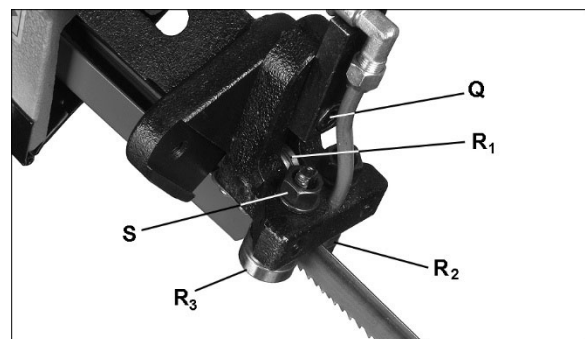

Figure 8-9: blade guide setting
2. Loosen bolt (Q, Figure 8-9) and adjust assembly so that rear bearing (R₁) is approximately 0.002 to 0.003 inches from back of blade. Also, inside bearing (R₂) should very lightly contact blade. Tighten bolt (Q).
3. Inside bearing (R₂) is fixed. Outside bearing (R₃) rotates on an eccentric shaft. Rotate nut (S) with 14mm wrench to adjust eccentric bearing to a clearance of 0.001 inches from blade.
3. If there is a gap, loosen bolt (Q, Figure 8-9) on each blade guide assembly and rotate blade guide assembly until gap is eliminated between square and ruler.
4. Retighten bolts (Q, Figure 8-9).